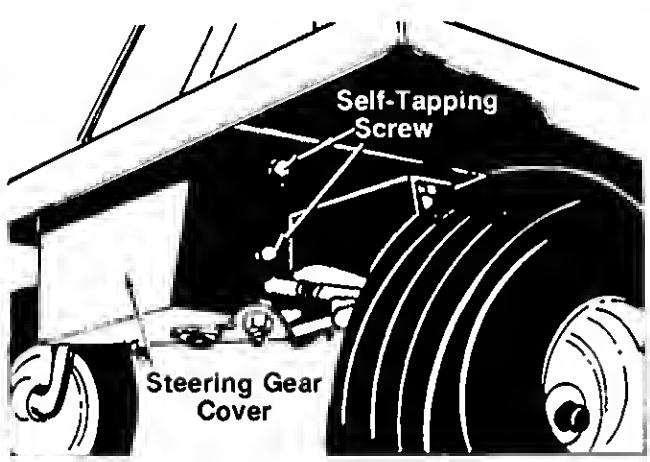

FIGURE 7.
14. Install the **steering gear cover** (D) as shown in figure 7, to cover the underside of the steering mechanism. Secure with two **self-tapping screws** on each side of the cover. Do not completely tighten any of these screws until all four of them are positioned correctly.